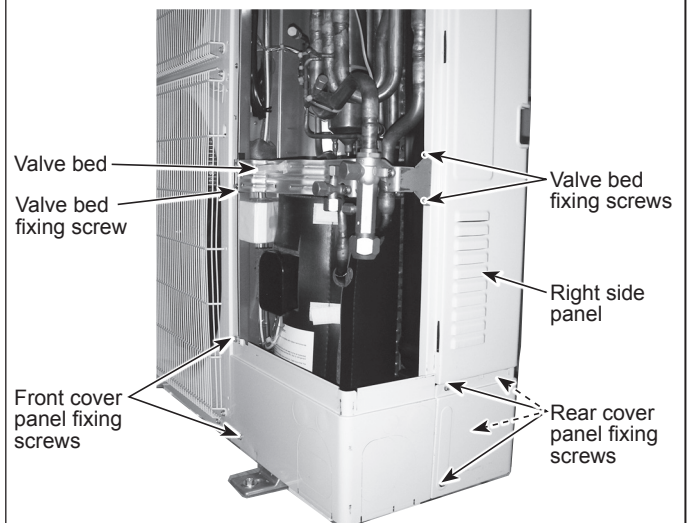

Figure 3
- (1) Remove the service panel. (See Photo 1)
- (2) Remove the top panel. (See Photo 1)
- (3) Remove the electrical parts box. (See Photo 5)
- (4) Remove the valve bed. (Refer to procedure 8 (4))
- (5) Remove the cover panel (front). (Refer to procedure 8(5))
- (6) Remove the cover panel (rear) (Refer to procedure 8(6))
- (7) Remove the side panel (R). (Refer to procedure 8 (7))
- (8) Remove front panel fixing screws, 5 (5x12) and 2 (4 x 10) and remove the front panel. (See Photo 4)
- (9) Remove 3 separator fixing screws (4 x 10) and remove the separator. (See Figure 3)
- (10) Recover refrigerant.
- (11) Remove the 3 compressor fixing nuts using spanner or adjustable wrench.
- (12) Remove the welded pipe of motor for compressor inlet and outlet and then remove the compressor.